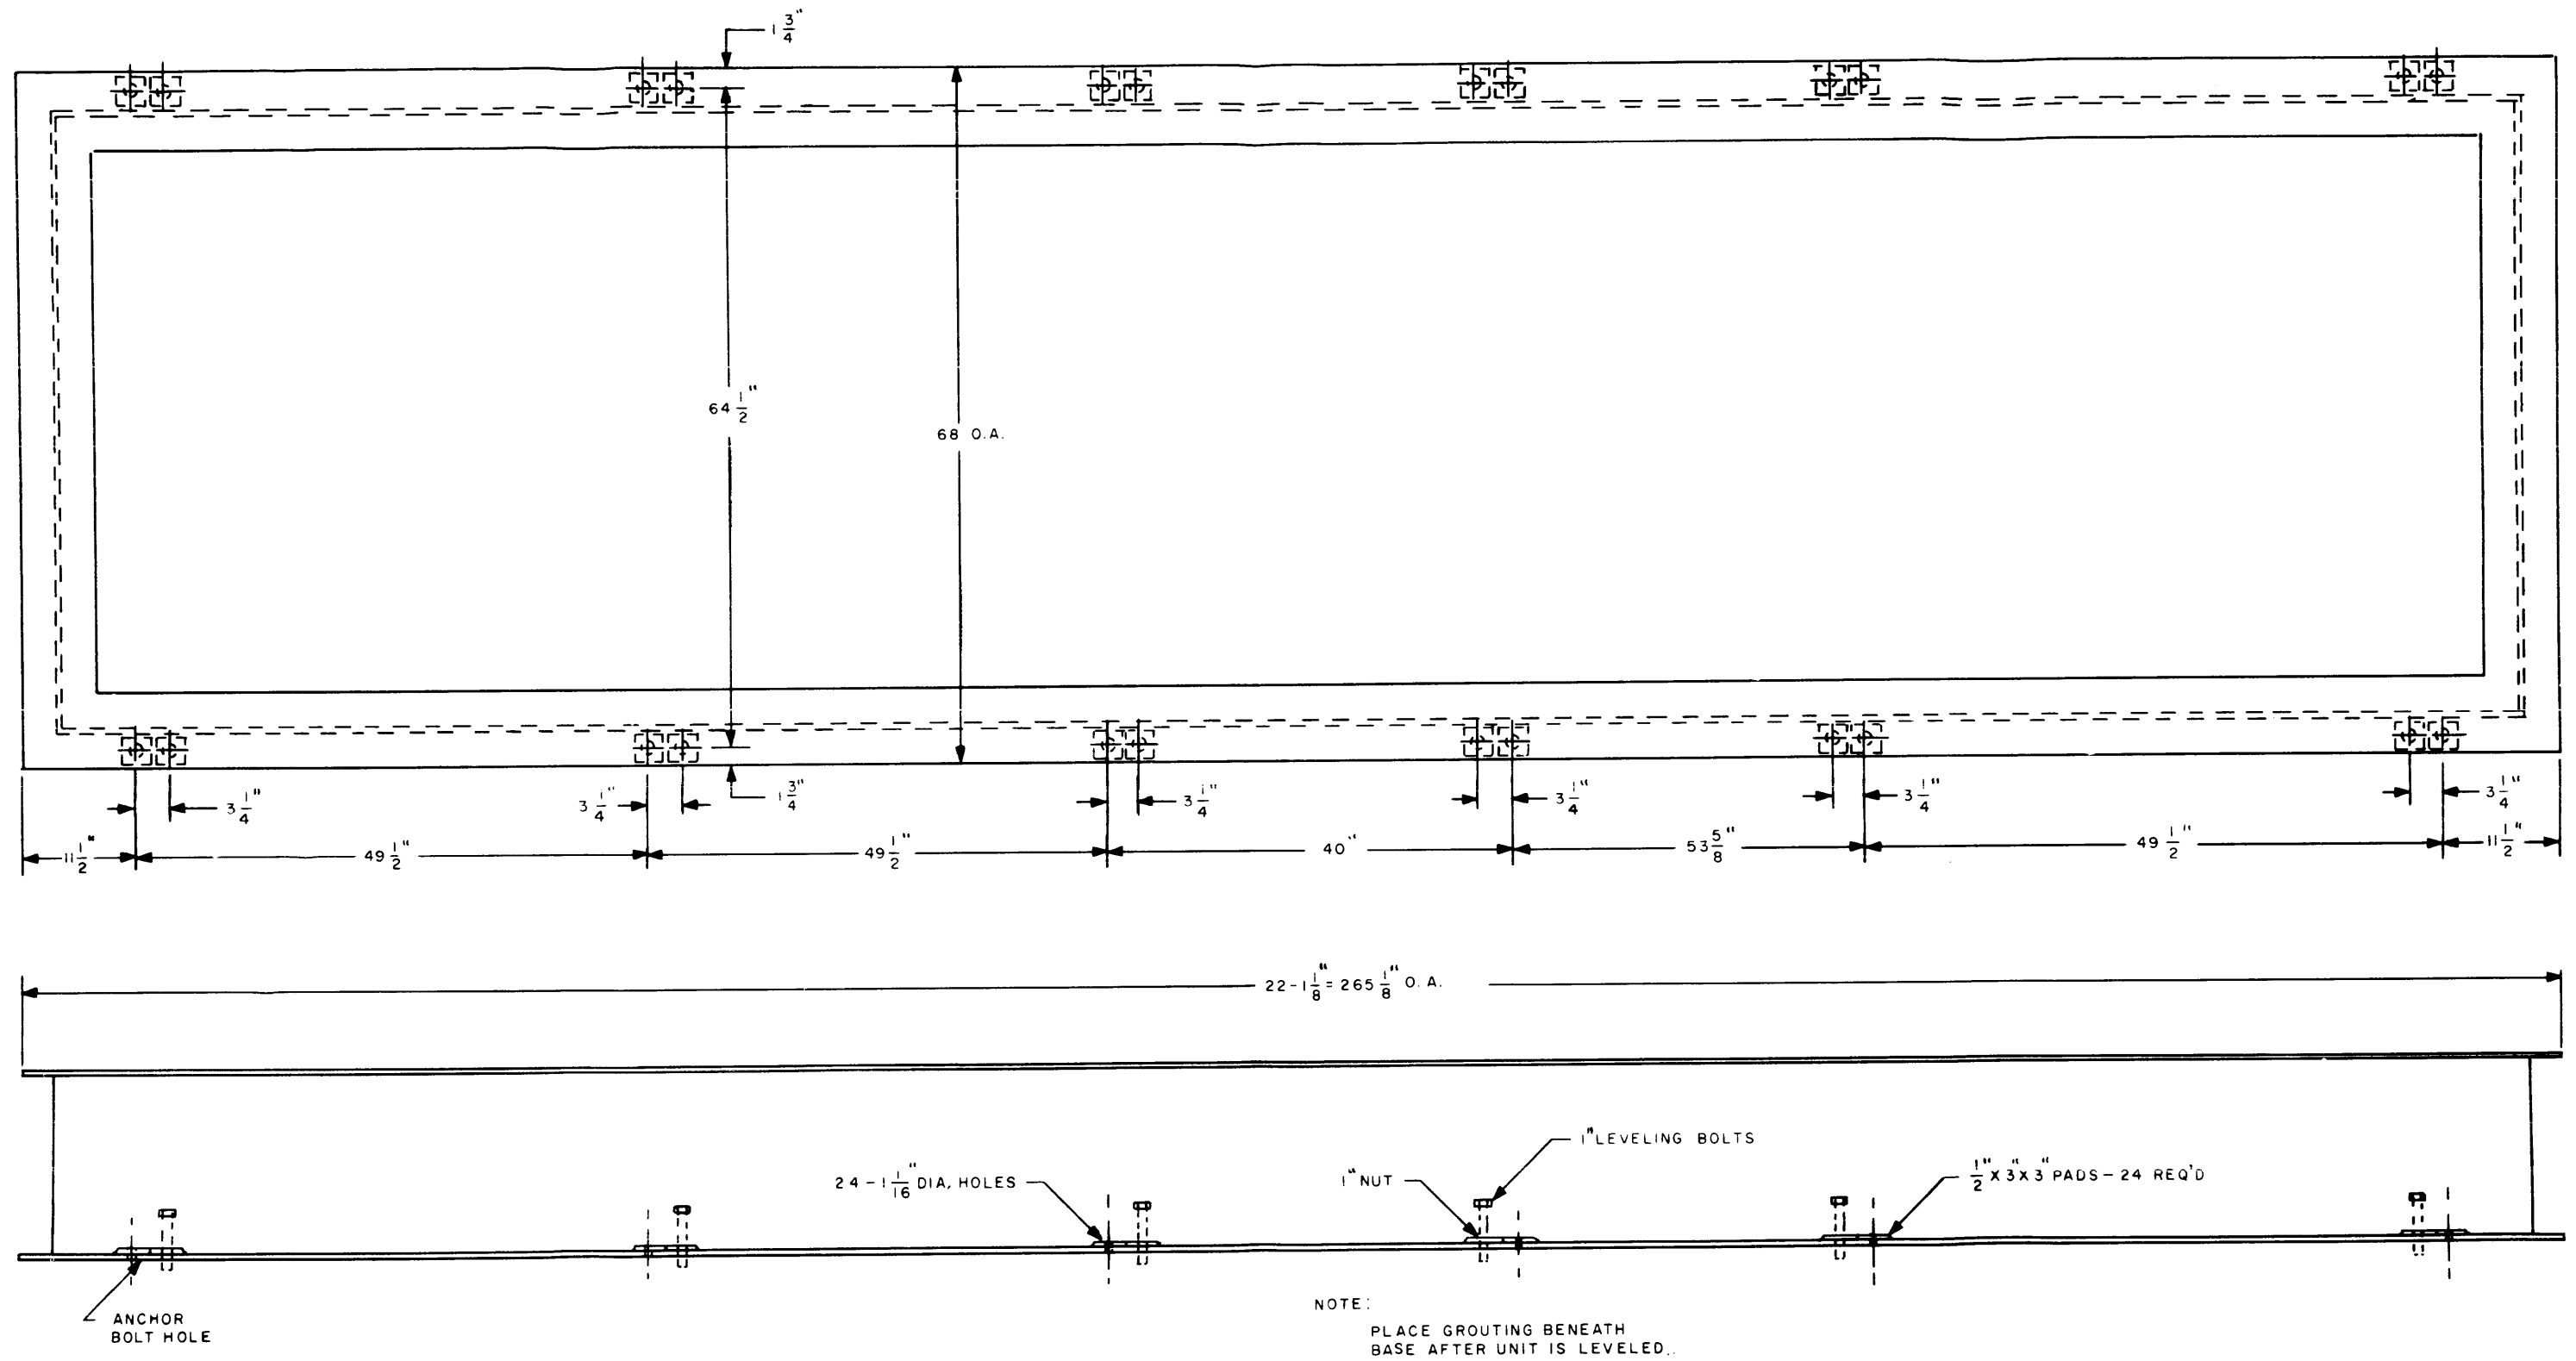

Figure 2-1. Generator Set Mounting Base, Showing Detailed Dimensions
- b. Level the generator set using the leveling bolts located at 12 points on either side of the generator set frame. See figure 2-1.